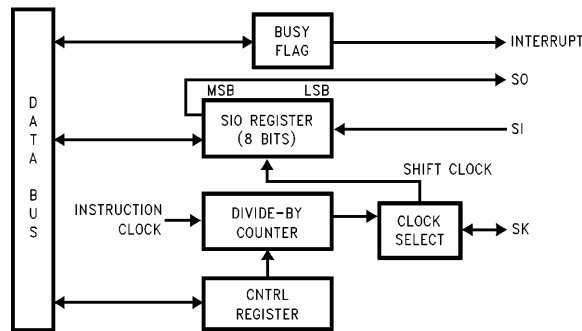

FIGURE 20. MICROWIRE/PLUS Block Diagram
MICROWIRE/PLUS is a serial synchronous communications interface. The MICROWIRE/PLUS capability enables the device to interface with any of National Semiconductor's MICROWIRE peripherals (i.e., A/D converters, display drivers, E2PROMs etc.) and with other microcontrollers which support the MICROWIRE interface. It consists of an 8-bit serial shift register (SIO) with serial data input (SI), serial data output (SO) and serial shift clock (SK). Figure 20 shows a block diagram of the MICROWIRE/PLUS logic.